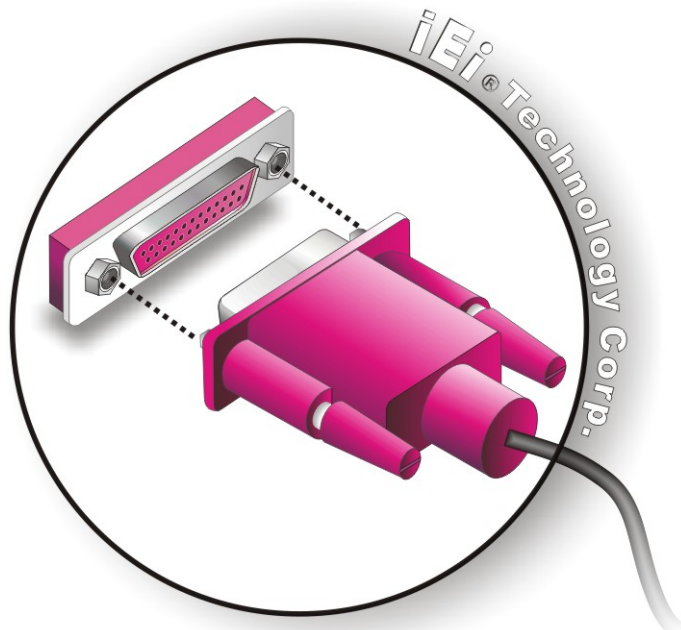

Figure 4-18: Parallel Device Connector
Step 2: Insert the DB-25 connector. Insert the DB-25 connector of a parallel device into the DB-25 connector on the external peripheral interface. See Figure 4-18.